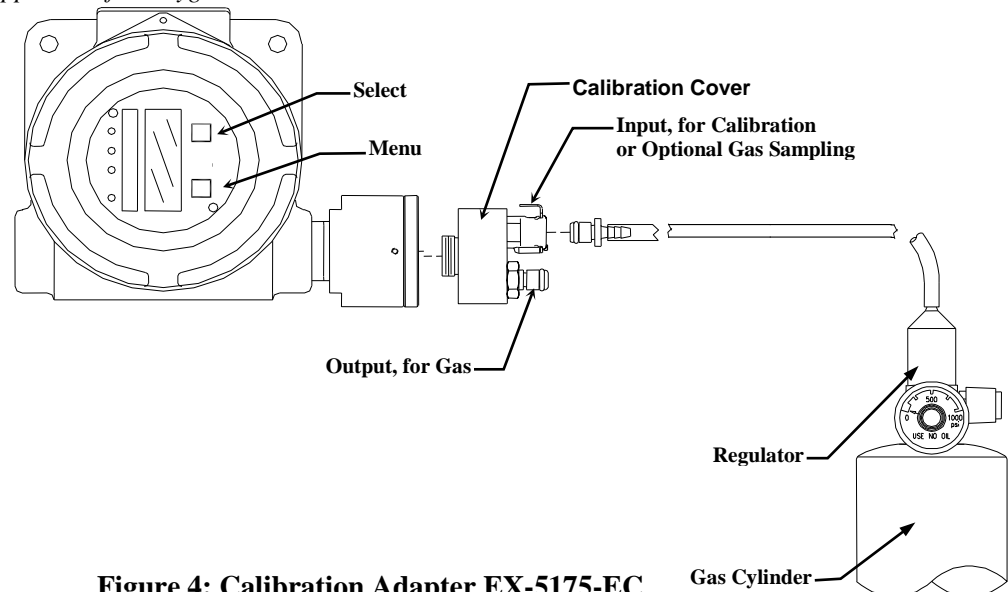

Figure 4: Calibration Adapter EX-5175-EC
2. Attach the associated calibration gas cylinder to the regulator and calibration cover. See **Figure 4**.